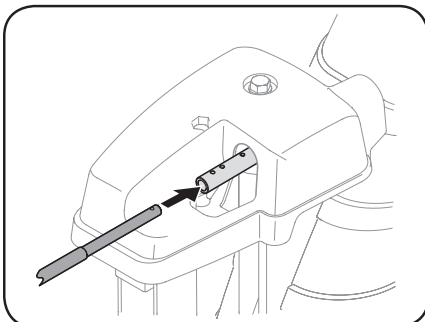

Figure 2-39
2. Insert round end of chute control rod into chute control head. Push rod as far into chute control head as possible, keeping holes in rod pointing upward. See Figure 2-39.